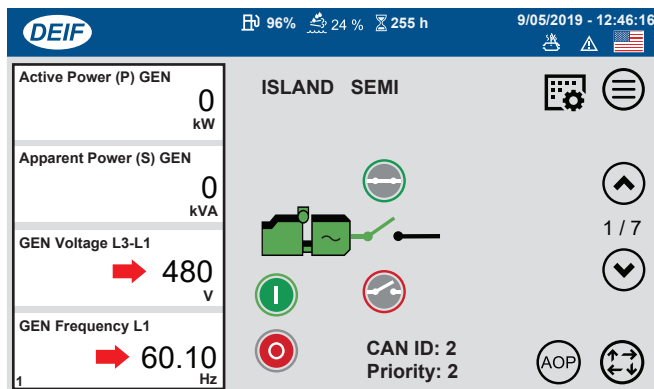

Figure 144. Voltage (V) and Frequency (Hz)
7. On the touch display (Figure 144), verify that the **voltage (V)** and **frequency (Hz)** match the expected output.